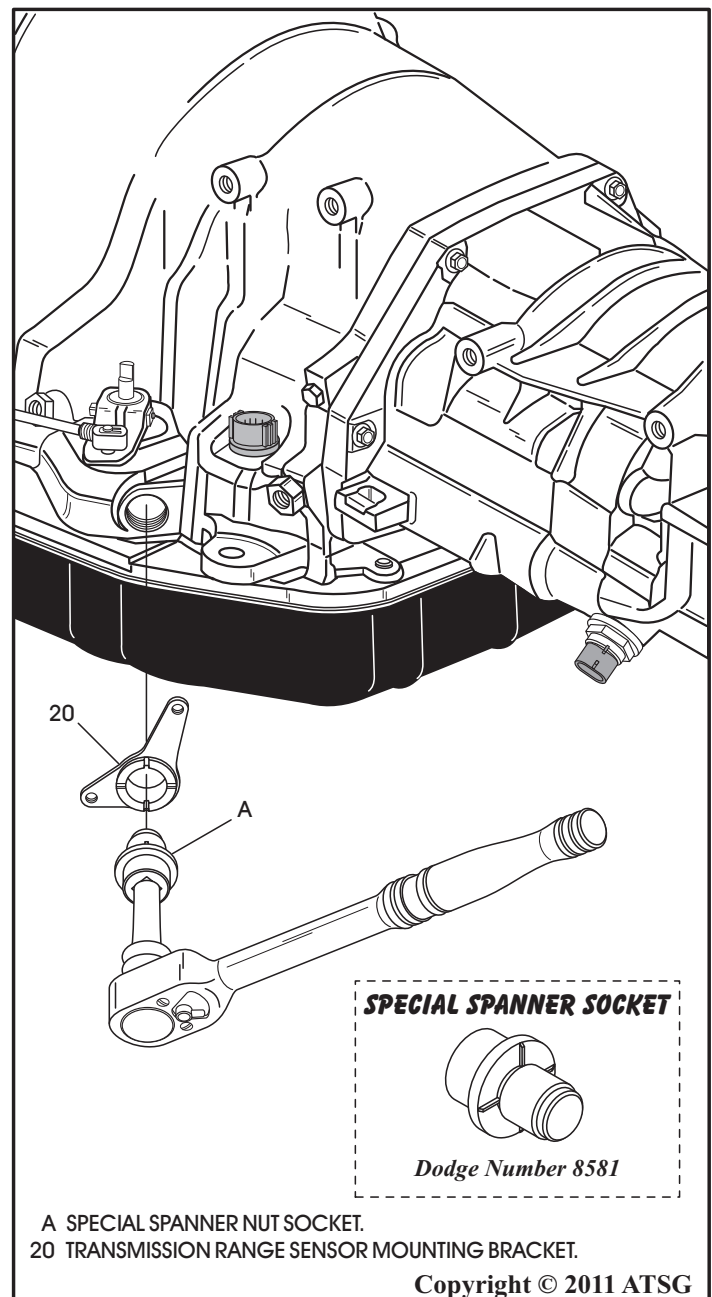

Figure 245
76. If the range sensor bracket was removed from case, install it using special socket, as shown in Figure 245.